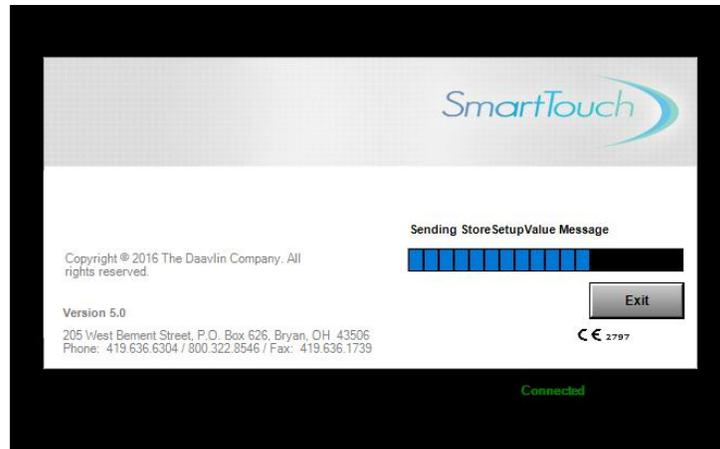

Figure 9 - Loading Screen
5. After saving the password, the system will display the loading screen (See **Figure 9 - Loading Screen**) while the software is booting up and connecting with the unit for the first time. The process in progress will be displayed in the top left corner of the screen (See **Figure 9 - Loading Screen**). Below the progress bar, the status of the unit connection will be displayed with a green “connected” (See **Figure 9 - Loading Screen**) or a red “disconnected” message. Make sure your unit is turned on and fully booted up for the “connected” message to occur.
4. Retype the new password, and then tap **Save** once. The Main Menu screen will be displayed (See **Figure 9 – Loading Screen**), the user password will be changed, and login is complete.